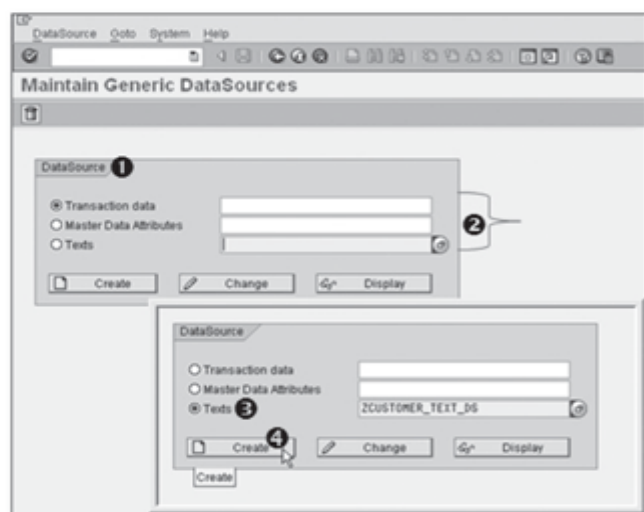
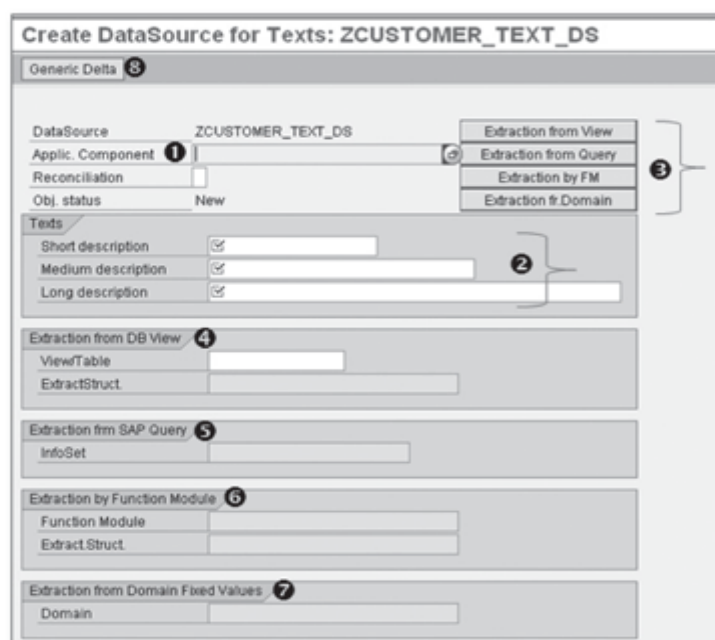

Figure 8.5 Create Generic DataSource
Figure 8.6 Create DataSource Initial Screen
You start Transaction RSO2 in SAP ERP to open up the Maintain Generic DataSource screen shown in Figure 8.5. This transaction allows you to create the following three types of DataSources:
In Chapter 7, Extraction, Transformation, and Loading, we created a master data and transaction DataSource. This time, we'll select a text DataSource (❶ of Figure 8.5). Enter the technical name of the DataSource, and click on the Create button (❷). This action opens the screen shown in Figure 8.6.
We'll now explain the different parts of the screen shown in Figure 8.6.
Just as in SAP NetWeaver BW, a DataSource is attached to an application component in SAP ERP. SAP delivers a standard structure of application components, which is known as the application component hierarchy. You can add more nodes to the delivered application component hierarchy or create your DataSource under a standard node. The application component hierarchy can be seen by clicking on the drop down icon on the extreme right as shown in ❶ of Figure 8.6.
A DataSource is described using text. You can attach a short, medium, and/or long description to a DataSource (❷ of Figure 8.6).
As shown in ❸ of Figure 8.6, there are four different options available to create a DataSource, selected based on how your data is stored:
If data is stored in a single table or set of tables that are related via a common key, you can select this option. Then enter the details in the area shown in ❹ of Figure 8.6. (Note: This option is selected by default.)
SAP queries allow users to define and execute custom evaluations of data in the SAP system; they are easy to use and don't require knowledge of ABAP coding. When the data required is available upon execution of a SAP query, you can create a DataSource based on this query. Selecting this option allows you to enter the details of the SAP query name in the area shown in ❸ of Figure 8.6.
Use this method when data to be extracted is available in multiple tables, and the relationship between them is complex. ABAP programming knowledge is required because this method requires the creation of a function module. Selecting this option allows you to enter the details of a function module in the area shown in ❹ of Figure 8.6.
You create a DataSource based on a domain to load master data text into an InfoObject in SAP NetWeaver BW. Selecting this option allows you to enter the details of the domain in the area shown in ❺ of Figure 8.6.
By default, generic DataSources aren't delta-capable; they always provide a full data set based on selection criteria. To change this, click the Generic Delta button shown in ❽ of Figure 8.6. We describe more about this button in Section 8.5, Making Generic DataSources Delta Capable.
After these settings are configured, click Save. Click the Back icon twice, which brings you back to the main screen for DataSource creation (refer to Figure 8.5).